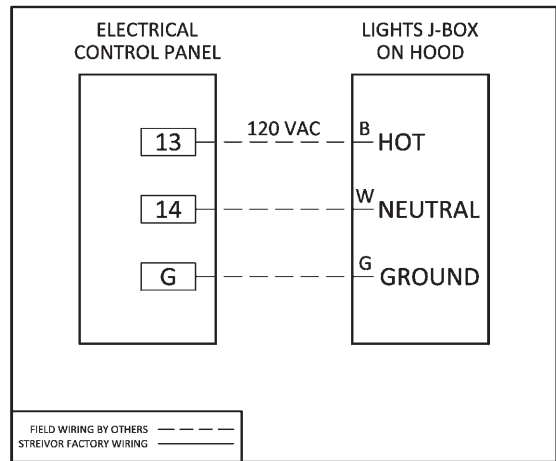

FIGURE 7:
- ii. To allow power to lights to automatically disconnect upon a fire suppression system activation, connect 120 VAC single phase power from terminal block 13 (hot), terminal block 14 (neutral), and ground in the control panel to the wires labeled “Lights” in the junction box on the hood (Figure 7).